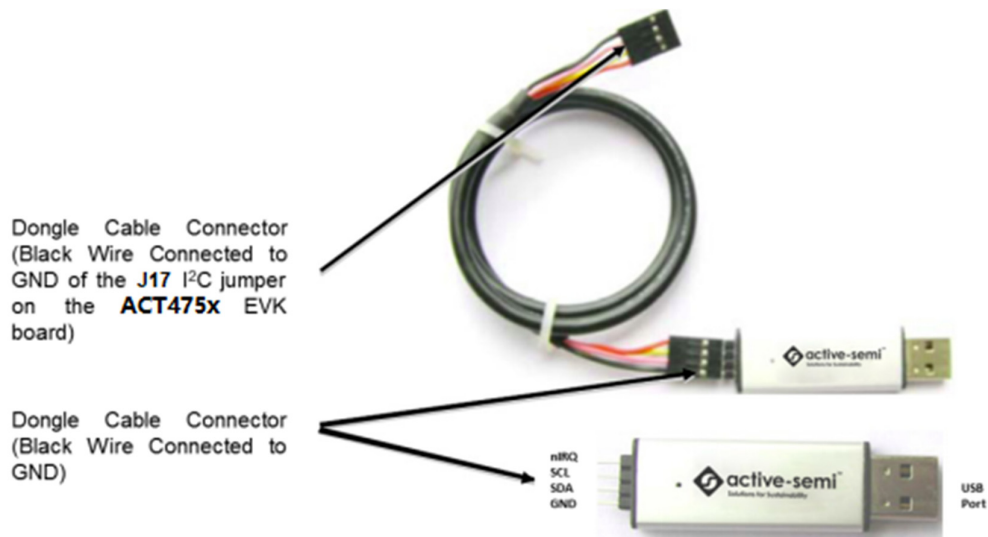

Figure 3. USB-TO-I2C Dongle Connection
3. Connect the USB-TO-I2C dongle to the EVK J17 connector. Refer to Figure 3 to ensure the correct polarity of the connection. As a guide, use the “Active-Semi” logo on the top of the dongle so the black wire is connected to the Dongle GND pin.